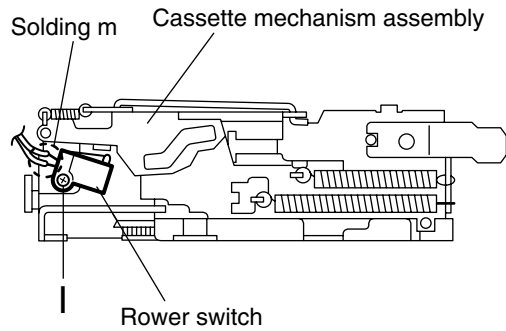

Fig.9
■ **Removing the power switch (See Fig.9)**